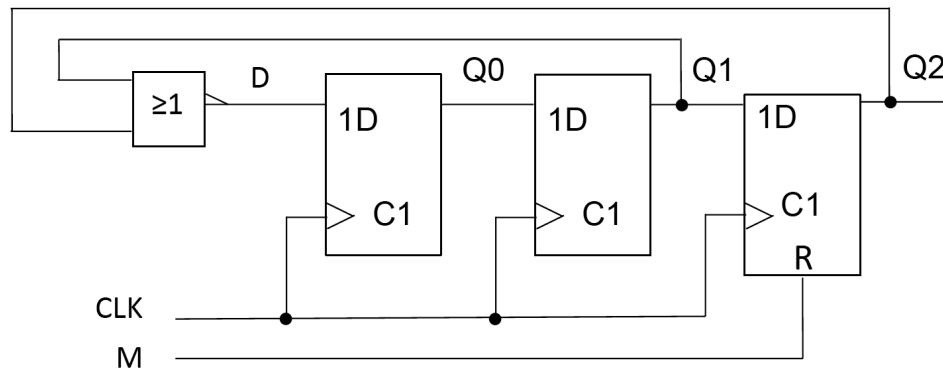

Figure 1.1
1. (a) *Figure 1.1* shows a counter circuit where one of the flip-flops has an asynchronous reset input which forces Q2 to zero whenever M=1. For M=0, draw the state diagram for the circuit of *Figure 1.1* assuming that all flip-flops are initially in the reset state. Draw a timing diagram showing the waveforms of the clock CLK, and the outputs Q0, Q1 and Q2 for one complete cycle of the counter.
- (c) The circuit in *Figure 1.1* is implemented on an Altera Cyclone III FPGA. Each Logic Element (LE) of the FPGA consists of a 4-input lookup-table (LUT) with a propagation delay t_d where $1\text{ns} \leq t_d \leq 3\text{ns}$, and a flip-flop with clock-to-output delay t_p where $2\text{ns} \leq t_p \leq 2.5\text{ns}$, a setup time t_s where $2\text{ns} \leq t_s \leq 3\text{ns}$, and a hold time t_h of 5 ns.